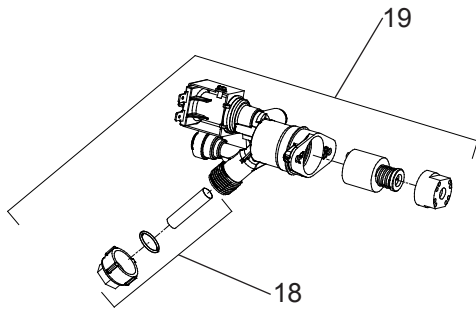

FIG. 3
- Using a small tip screwdriver, locate range adjustment screw through the small hole between the sensor lenses (See Page 1.) Turn this screw clockwise to increase range and counterclockwise to decrease range (See Fig. 3).